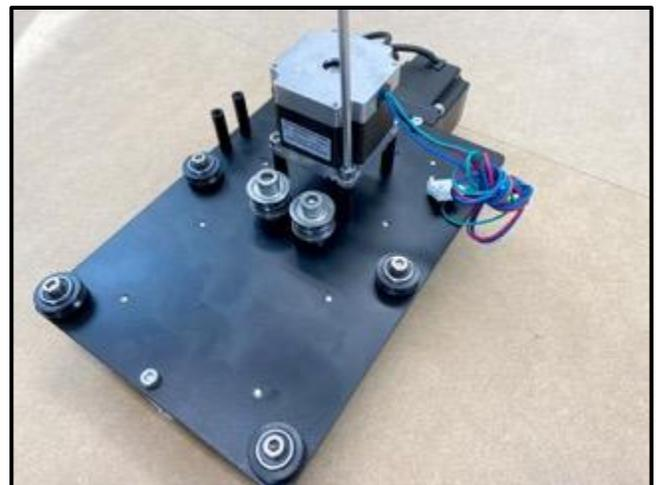

Figure 3-8
1. Place the Z-Plus face down, with the six (6) pre-installed 30mm standoffs pointing up.
2. Set the X-motor onto the four (4) evenly spaced 30mm standoffs in the center of the Z-Plus between the Z-motor and the idlers with the Carbide 3D label facing down (toward the idlers). See **Figure 3-8**.
3. Use the 4mm hex key and four (4) M5x10mm socket head cap screws to secure the X-motor to the Z-Plus.